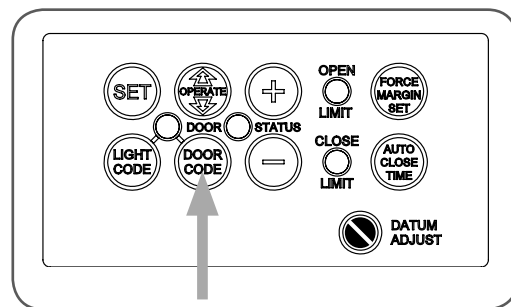

fig 32
- Press and hold the DOOR CODE BUTTON (**Fig. 32**).
- While switched off, press and hold the DOOR CODE BUTTON (**Fig. 32**). Turn on power to the opener while holding this button.